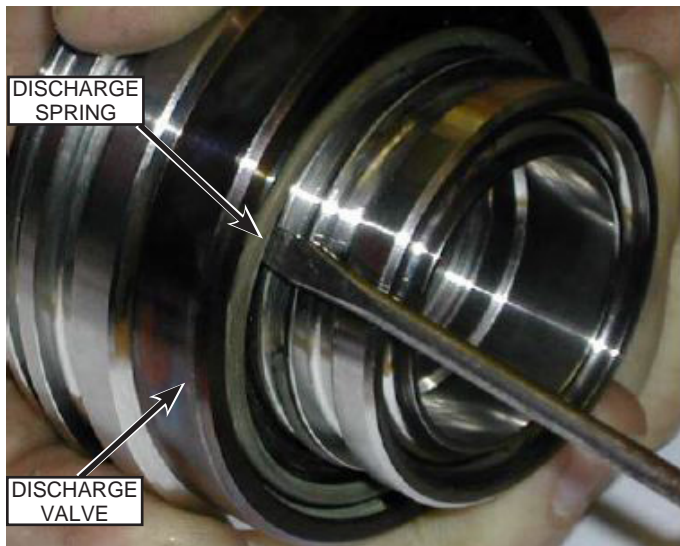

Fig. 93: Discharge Spring and Valve Removal
6. Insert a small screwdriver under the discharge spring (Fig. 93). Carefully rotate the screwdriver until the spring releases from the groove.